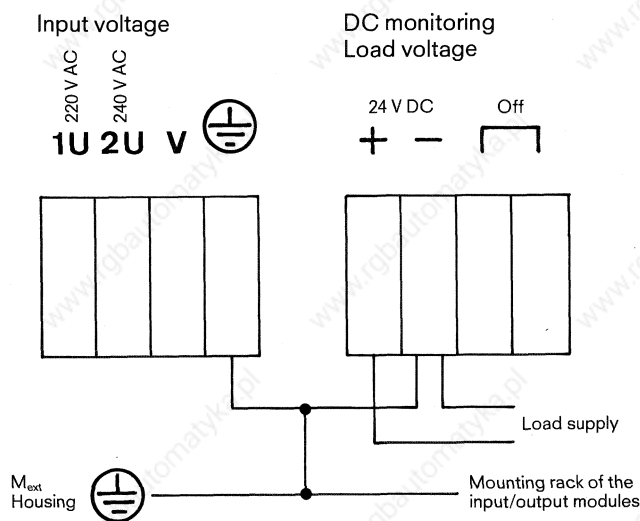

Fig. 11 Mains connections of the power supply unit
- The M connection from the load power supply to the M_{ext} terminal should be made via a short connecting wire (see Fig. 11).